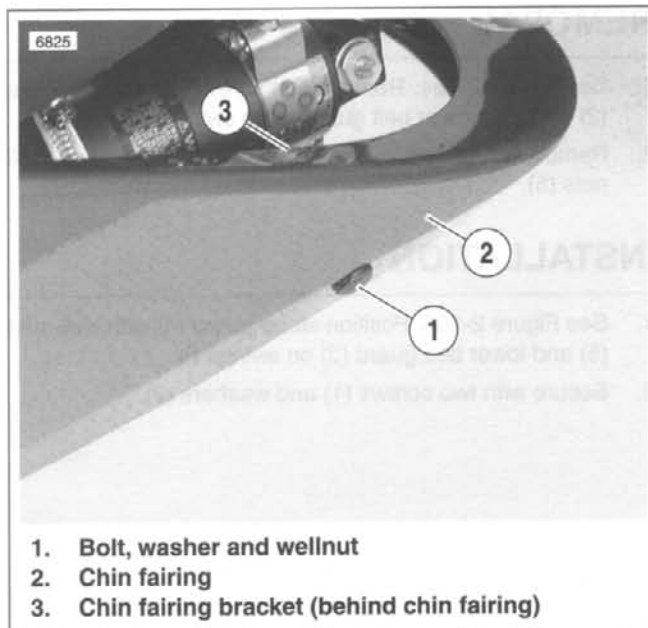
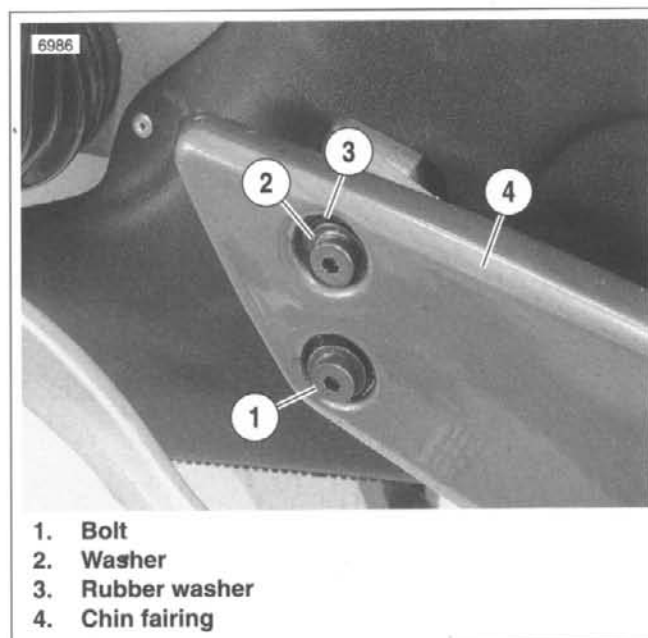

Figure 2-157. Chin Fairing Bracket
Figure 2-158. Chin Fairing, Right Side
2. See Figure 2-157. Remove bolt, washer and well nut (1) securing chin fairing (2) to chin fairing bracket (3).
3. See Figure 2-158. Remove two bolts, washers and rubber washers from right side of chin fairing.
1. See Figure 2-157. If removed, install chin fairing bracket (3) on shock mounting hardware. See 2.28 REAR SHOCK ABSORBER.
2. See Figure 2-158. Install right side mounting hardware.
- a. Install washer (2) and rubber washer (3) on bolt.
3. See Figure 2-157. Loosely install bolt, washer and well nut (1) to attach chin fairing (2) to chin fairing bracket.